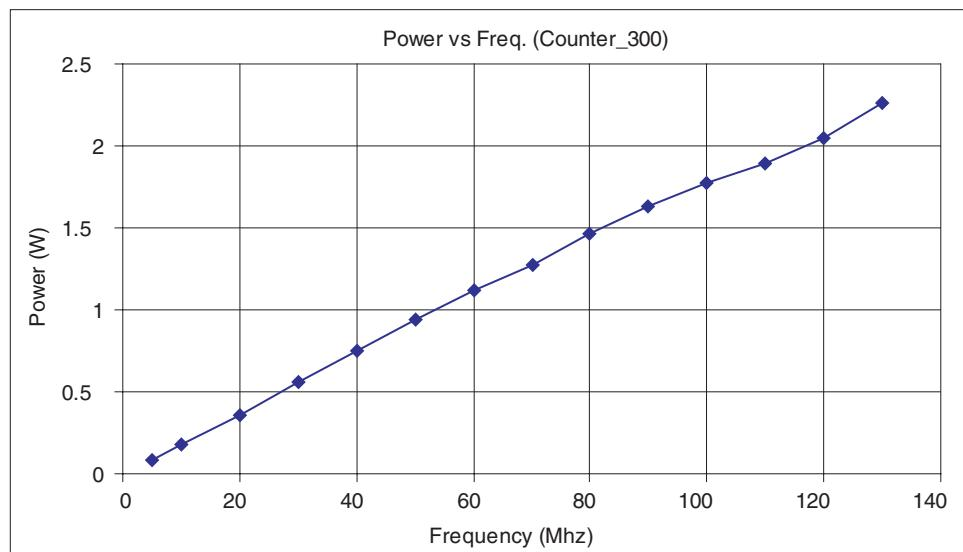

Figure 22: Power Consumption
Figure 22 exhibits the power consumption in an EclipsePlus QL7160 device. The chip was filled with (300) 8-bit counters—approximately 76% logic cell utilization.